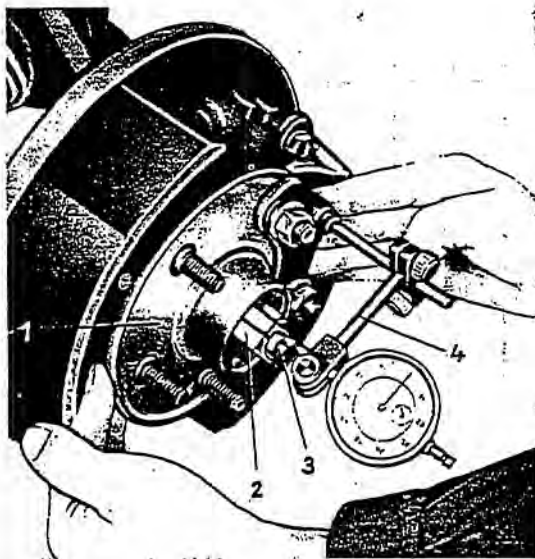

Fig. 33-5/8
- 24. Attach Tester 136 589 04 21 to the hub and adjust the dial gage to an initial tension of approx. 2 mm (Fig. 33-5/8). Check the end play of the hub by vigorously pulling and pushing the flange. Turn the hub several times before making any measurements.